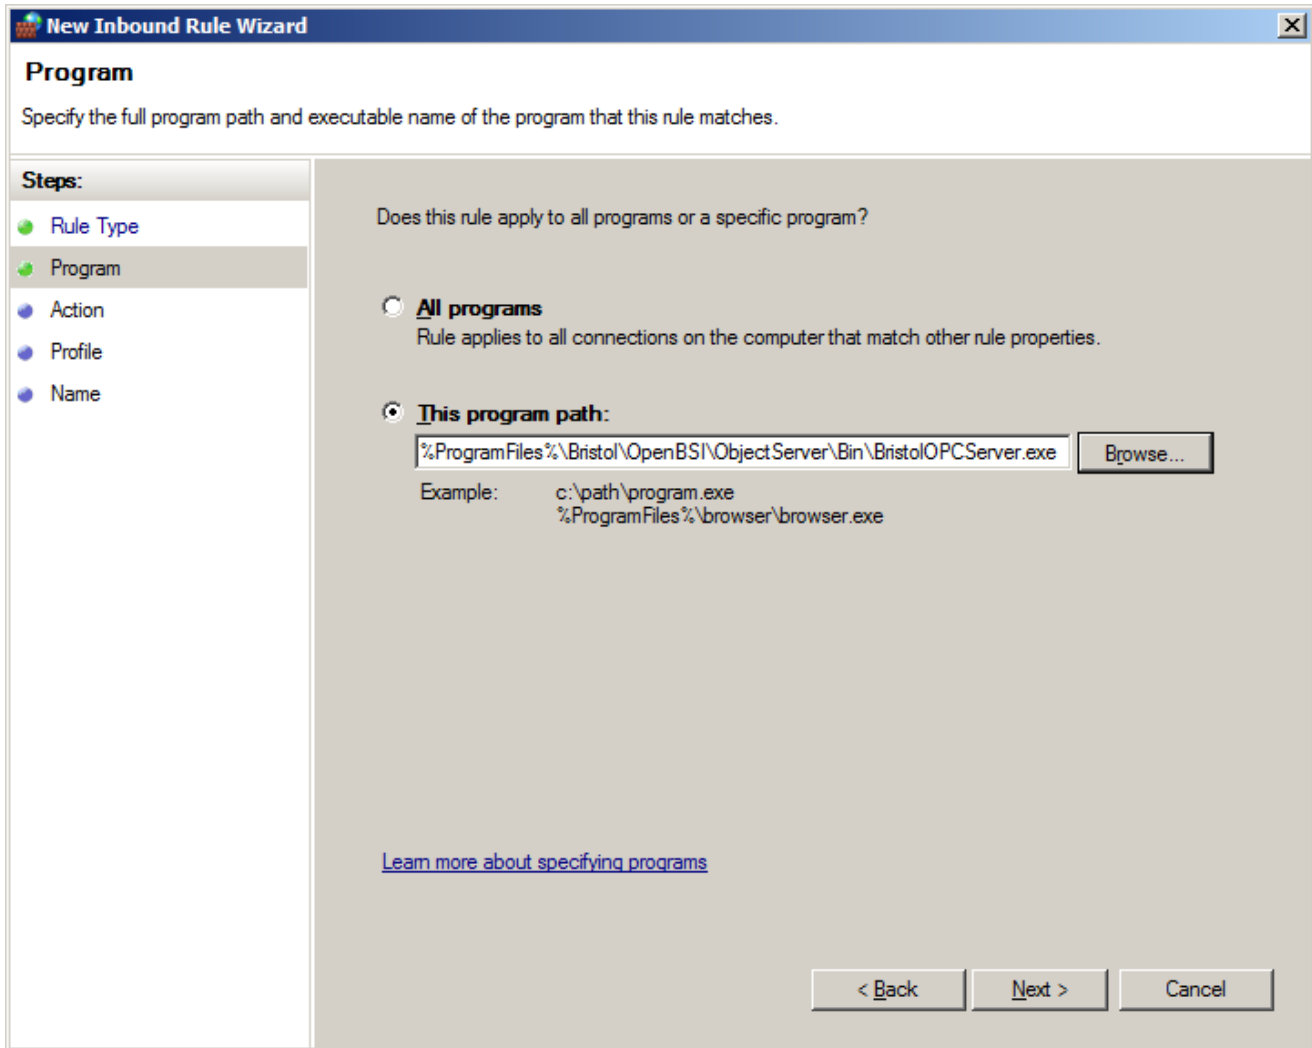

Figure 2-57. Program Path for the Exception
8. The path for the item you just selected shows in the **This program path** field on the Program page of the New Inbound Rule Wizard (Figure 2-57). Click **Next**.